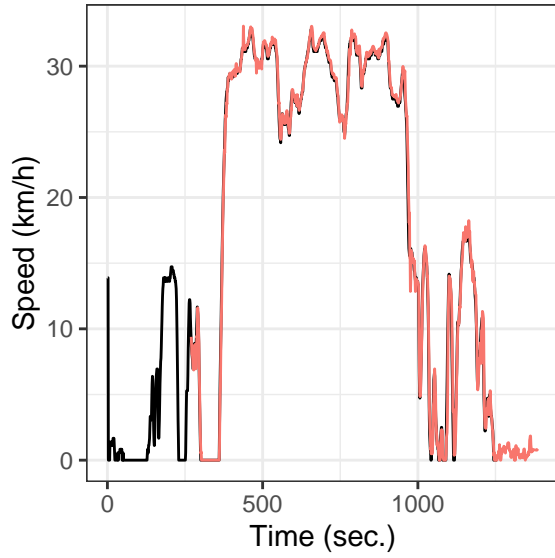

Fig. 3. A sample output of matched speed graph.
Thus, using conversion factor and the lagging time (300 sec.), we can guess our final output should be similar to Fig 3. From now on, we will use km/h as a speed scale since the result plot re-confirms that the unit of each sensors.
**Lagging time detection algorithm.** The next step is to automatically determine the lag time given that we have two matched trips. We will use the same sample trips used in the previous section. In Fig. 3, the exact lag time for smartphone trip data was 270 seconds. To detect the lagging time, we need to consider every possible combination of these two trip by using sliding window algorithm. A nice visualization of this concept can be found at here. We consider the speed graph from OBDII as a fixed function and the speed graph from smartphone as a floating function in the algorithm.